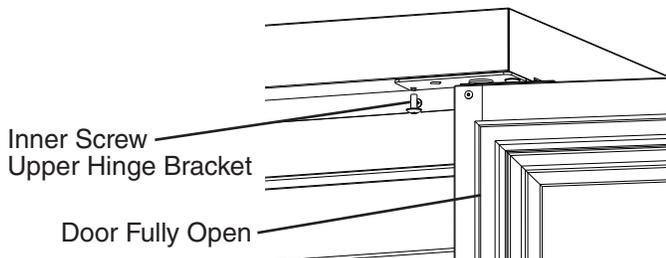

Fig. 6
- 2) Open the door to the fully open position, then remove the inner screw from the upper hinge bracket. See Fig. 6.